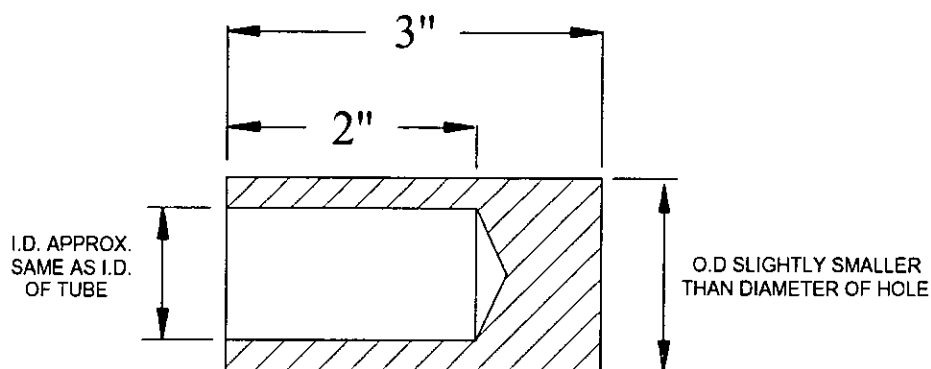

Figure 2
- 8.4.8 MEASURE diameter of hole and have a plug prepared from 304 or 316SS in accordance with Figure 2.